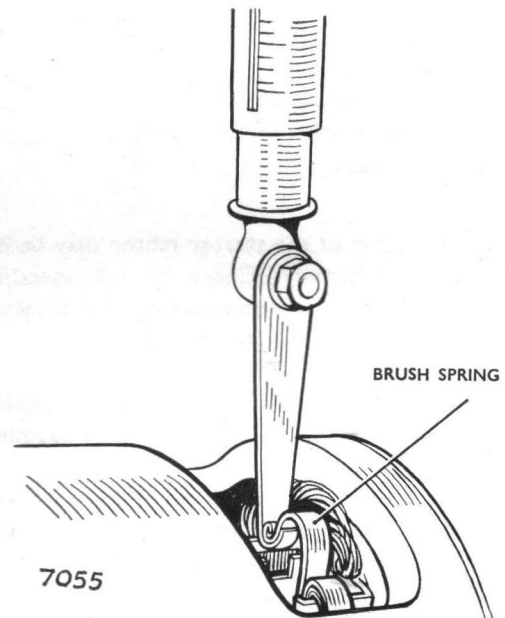

Fig. 15. Checking brush spring tension
2. Check the tension of the brush springs using a spring scale. (See Fig. 15). The correct tension is 30 to 34 oz. New springs must be fitted if tension is low.